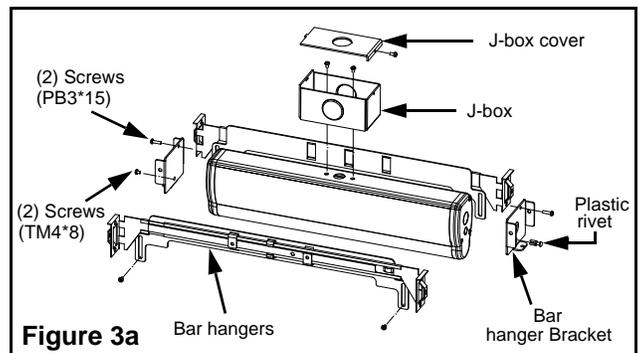

Figure 3a
5. Mount the left bar hanger bracket onto the left end cap and screw it in with screws (PB3\*15 and TM4\*8), (do not pass the wires through this bracket) (see figure 3a).
6. Mount the right bar hanger bracket onto the right end cap and screw it in with screw (PB3\*15 and plastic rivet), (pass the wires through this bracket) (see figure 3a).
8. Mount bar hangers onto the bar hanger brackets with 4 screws (TM4\*8) (see figure 3a or 3b depending on bar hanger configuration).